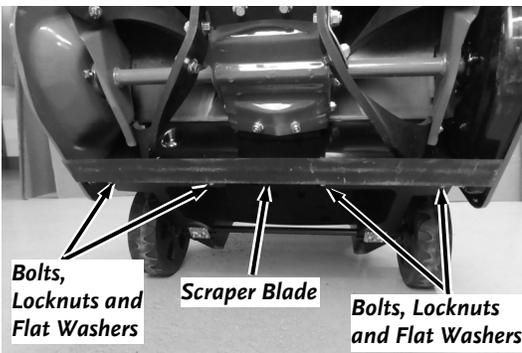

Figure 13
2. Remove the four Carriage Bolts, Locknuts, and Flat Washers that secure the Scraper Blade (**Figure 13**).